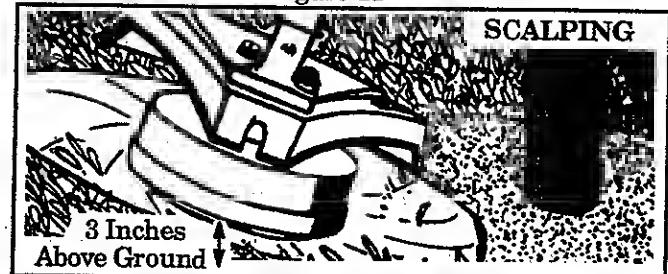

Figure 12
- SCALPING** – Figure 12 . The scalping technique removes unwanted vegetation. Hold the bottom of the trimmer head about 3 inches above the ground and at an angle. Allow the tip of the line to strike ground around trees, posts, monuments, etc. *This technique increases line wear.*